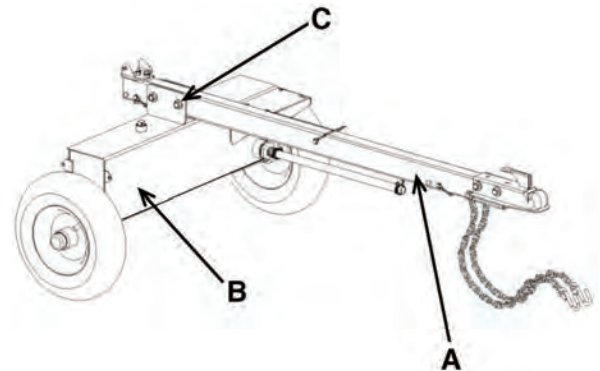

Figure 2
- 1) Connect towbar (A) Fig.2 to axle/tank (B) using 2 hex. bolts and 2 nylon hex. nuts (C) (already in place).